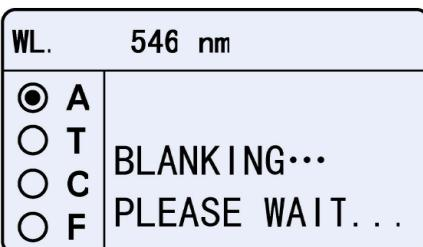

Fig. 4-2
3) Pull the reference in the light path, press (Fig.4-2).